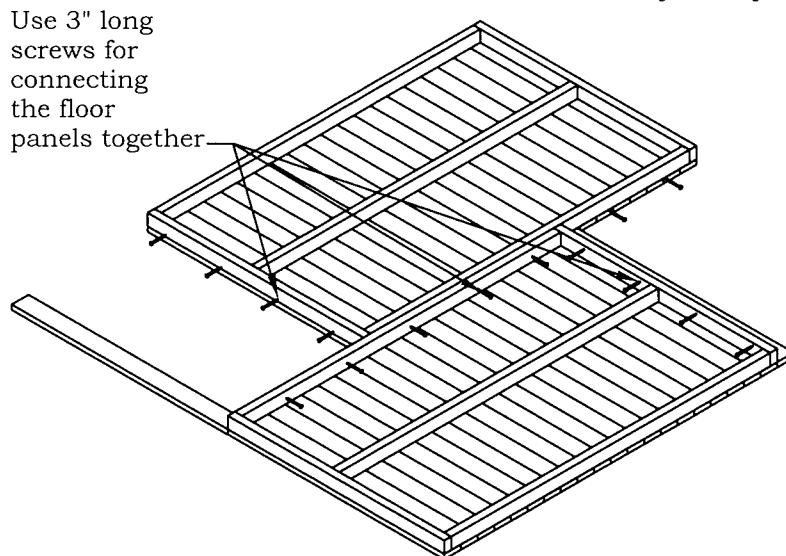

FIGURE F2
- Using 3" long screws, fasten the floor sections together along the length of each section as shown in Figure F2. You need to flip the entire floor assembly over so the decking is facing up again after placing all screws.